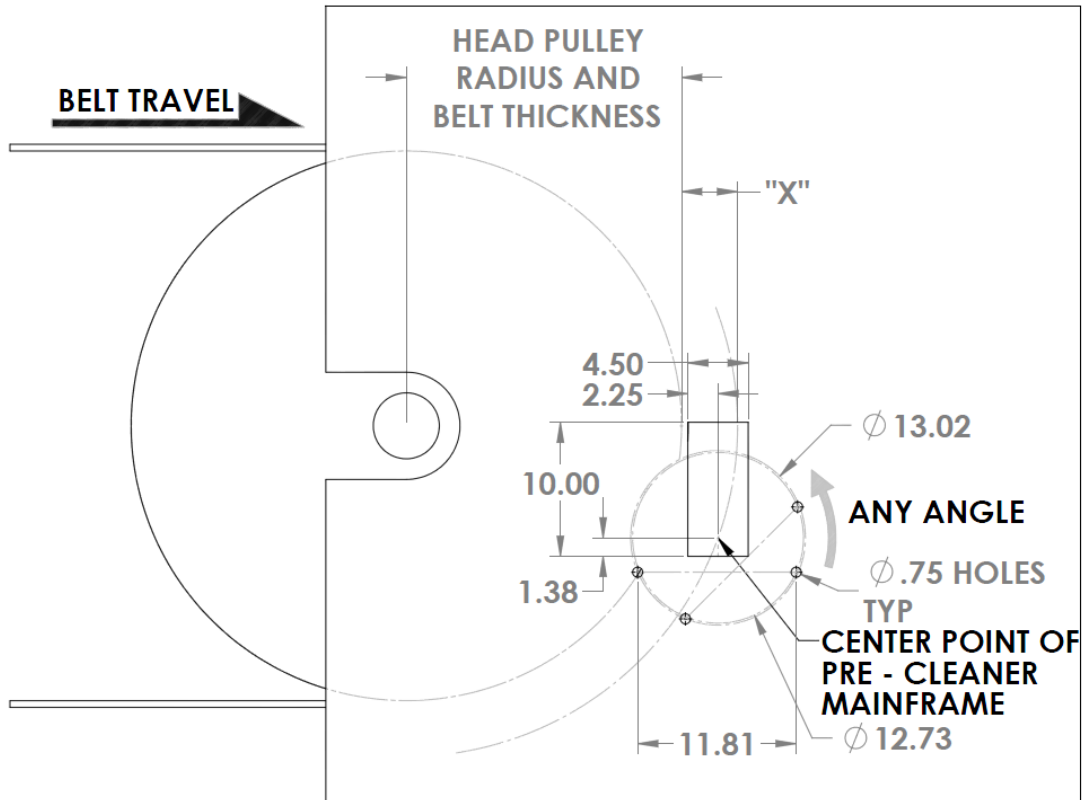

Figure 4: Hole Cutout Template
2. Locate/Cut access hole for far side opening. Locate and drill holes for mounting bracket (top of bracket should line up with bottom of access window). Use X from Table1 above and the dimensions shown in Figure 4.